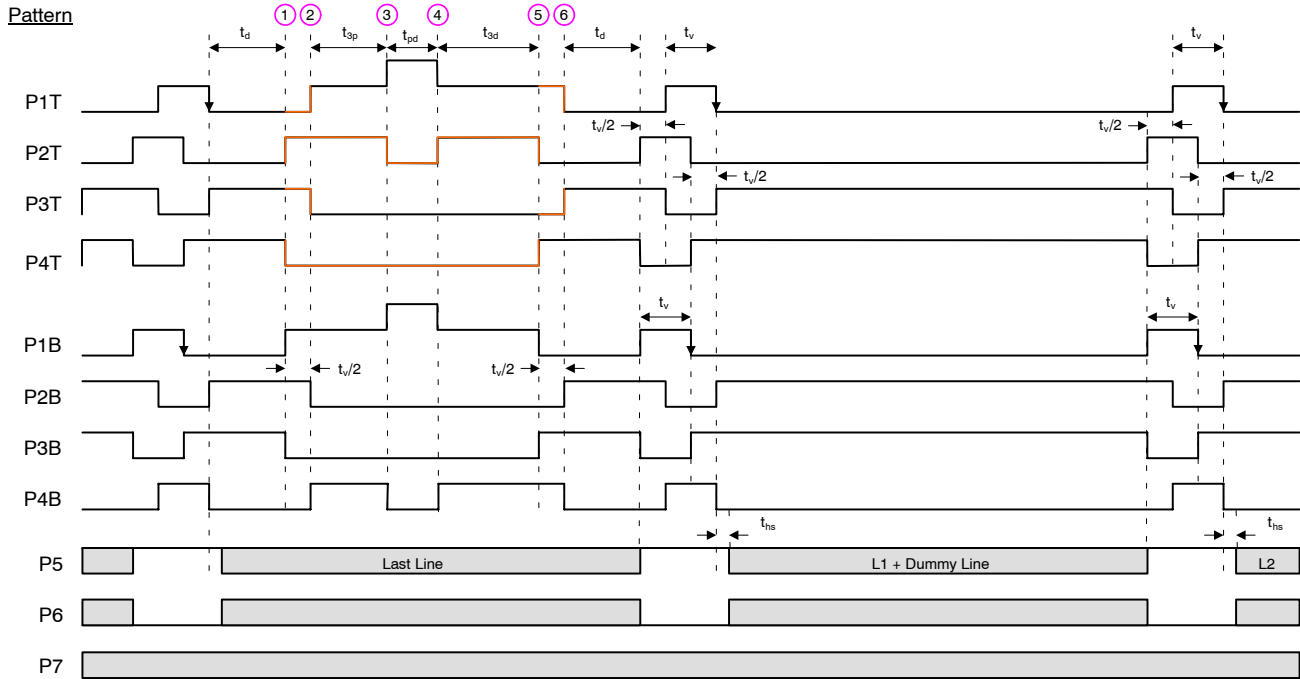
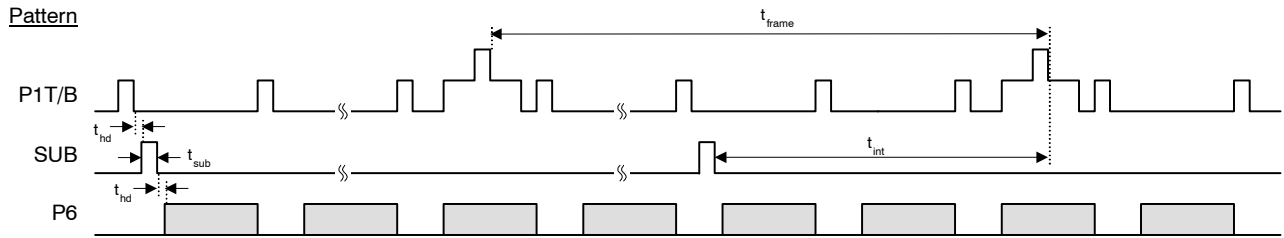
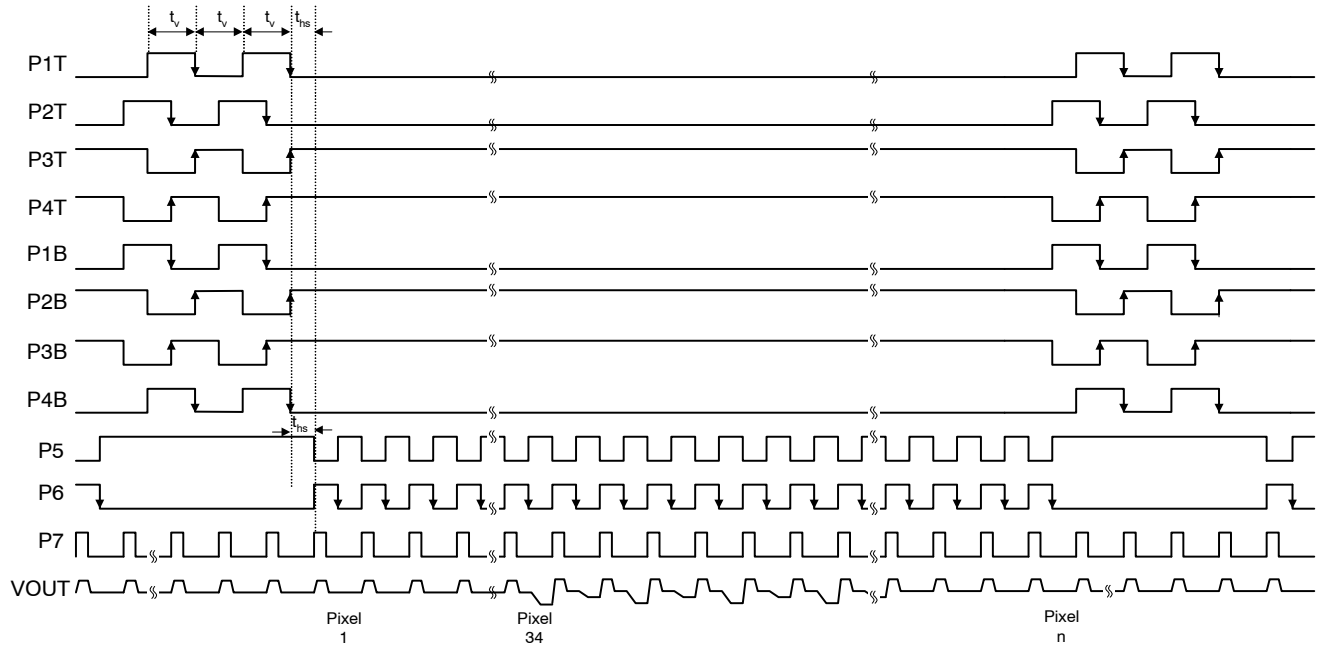

Figure 19. Photodiode Transfer Timing
**Figure 21. Pixel Timing Detail**
**Figure 22. Frame/Electronic Shutter Timing**
1. Refer to timing diagrams as shown in Figure 19, Figure 20, Figure 21, Figure 22 and Figure 23.
The timing sequence for the clocked device pins may be represented as one of seven patterns (P1–P7) as shown in the table below. The patterns are defined in Figure 19 and